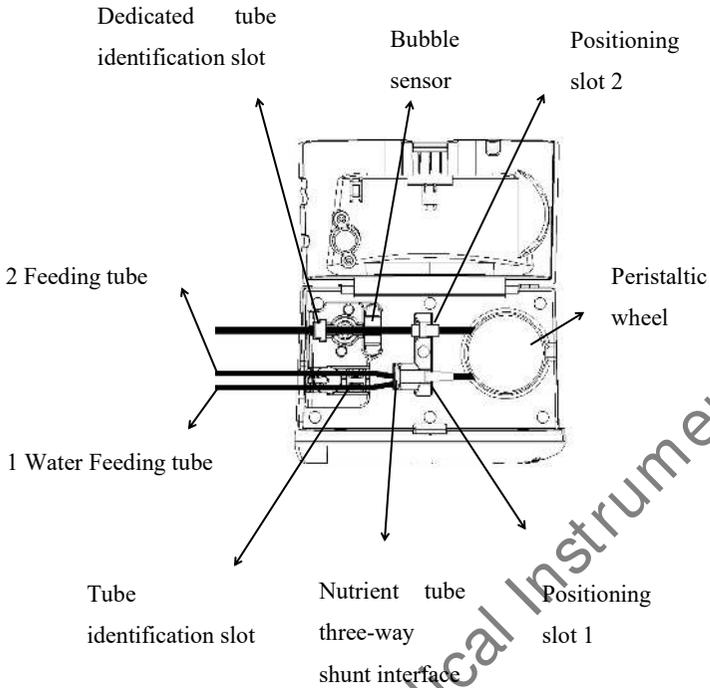

Fig. 8.1.3.1 Nutricare-300H Installation diagram
Nutricare-300H nutrition tube installation, as shown in Fig. 8.1.3.1
a. Press the door buckle, open the door cover, and put the nutrient tube three-way shunt interface into the positioning slot 1 with the left hand. For a double bag, the water feeding tube and the feeding tube can be put into the tube identification slot in sequence as shown in Fig.8.1.3. For a single bag, it can be put into either side of the tube identification slot.
★Note 2: Please note the direction of installation of the water feeding tube and the feeding tube if it is a double bag, the correct direction as shown in Fig. 8.1.3.1